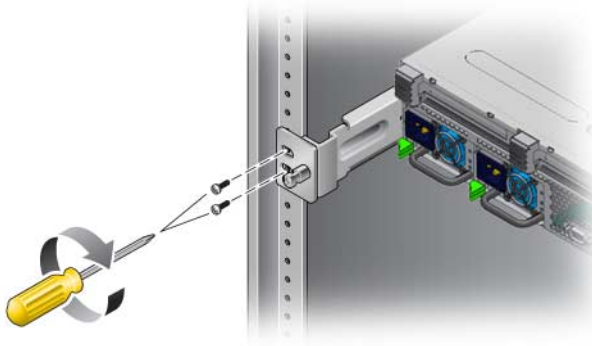

FIGURE 2-5 Securing the Rear of the Server to the Rack
9. Using two screws for each rear mount support bracket, secure the rear mount support flanges to the rear of the rack (FIGURE 2-5), and secure the flanges to the rear mount support brackets.